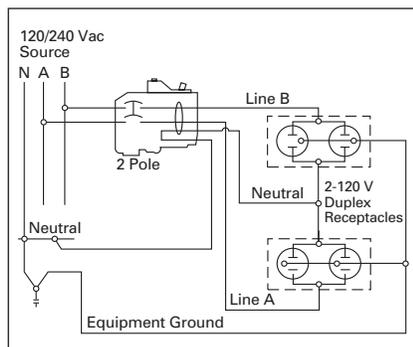
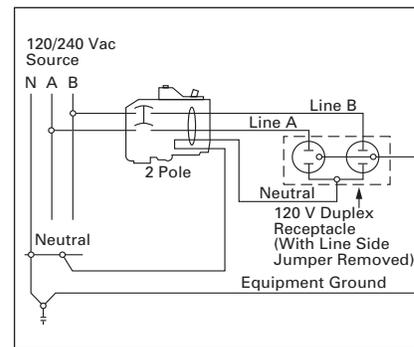

Figure 26.2-3. 1-Pole Shared Neutral with Multi-Duplex Receptacle Application
Figure 26.2-5. 2-Pole Shared Neutral with Duplex Receptacle Application
② Independent trip refers to 2-pole multi-wire, home run or shared neutral circuits (see Figure 26.2-3 and Figure 26.2-5).